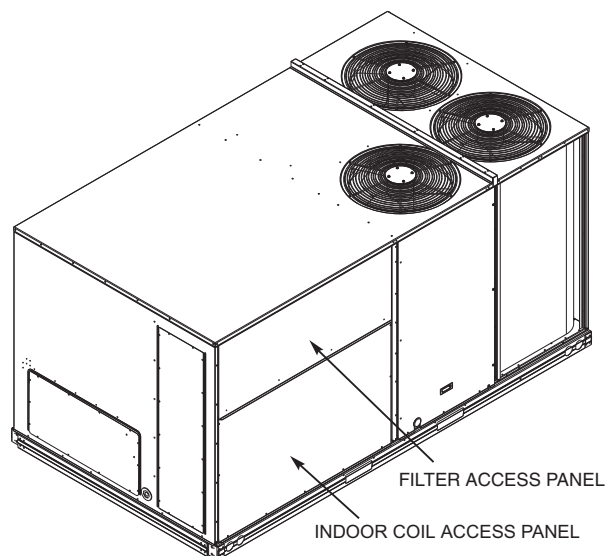

Fig. 14 — Typical Access Panel Locations (Size 180 Shown)
2. To gain access to the hood, remove the filter access panel. (See Fig. 14).
2. To gain access to the hood, remove the filter access panel (see Fig. 14).
2. To gain access to the hood, remove the filter access panel. See Fig. 14.